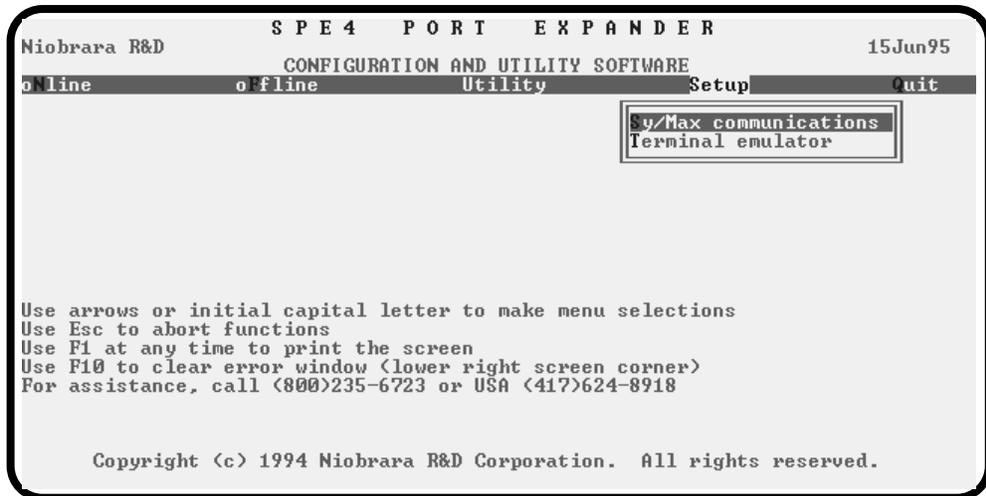

Figure 2-3 Setup Menu Screen
- Press S for Setup to configure the personal computer for the connection to the SPE4. The Setup menu should appear as in Figure 2-3.